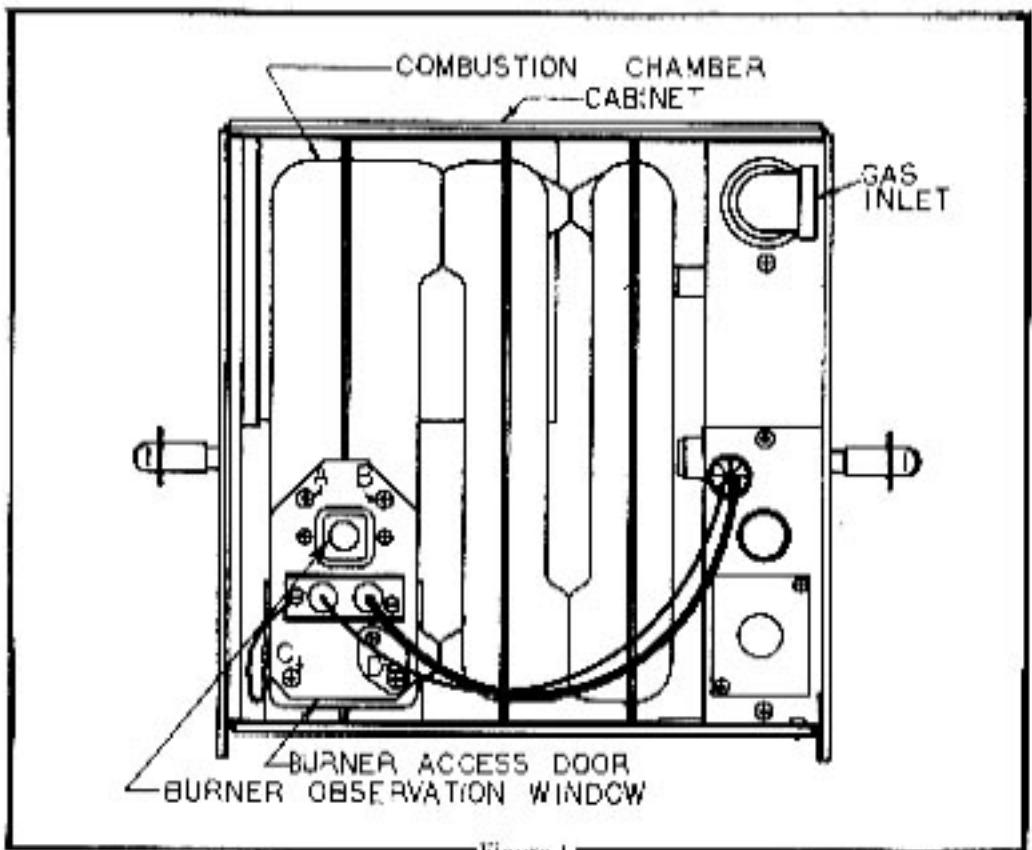

Figure 1
NOTE. To observe flame, cabinet front must be removed. Operation of burner can then be observed through the viewing window on front of chamber (see Figure 1).
- 1-Turn the manual valve to the off position (see Figure 1).
4-Inspect main burner by removing the four (4) screws (A, B, C, and D) securing the burner access door to the combustion chamber (see Figure 1). If excessive rust and corrosion are present on burner surface, the burner must be thoroughly cleaned or replaced.